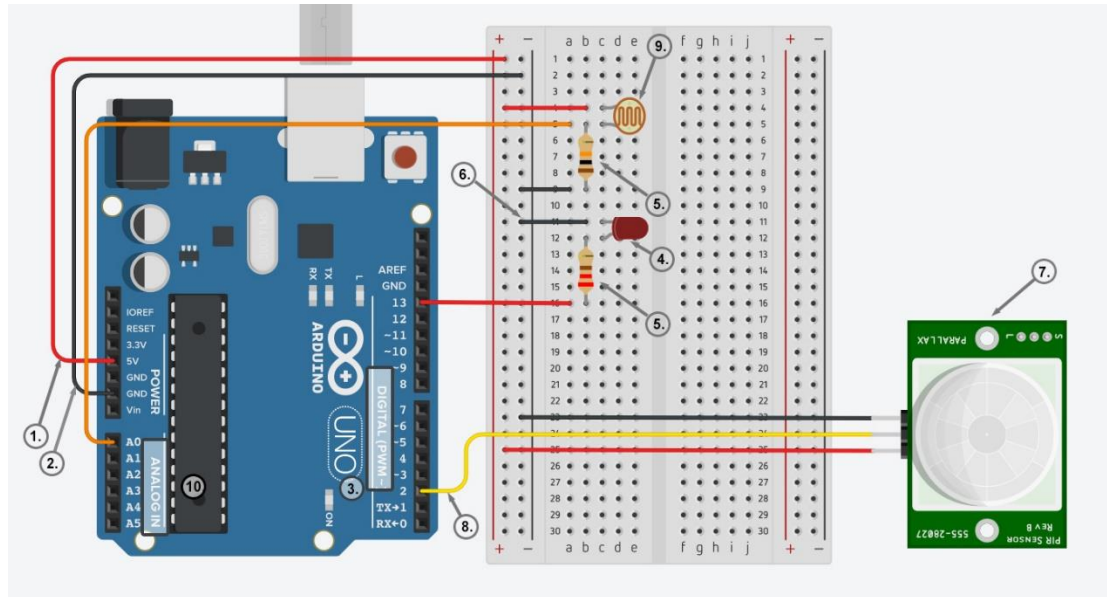

Figure 2: Diagram of the circuit
The following diagram (Figure 2) presents the way that the components of the circuit, meaning a LED, a PIR Sensor, and a photoresistor (optional), should be connected. In the beginning, the breadboard should be supplied with power (5V) (1) and ground (GND) (2), through jumpers that are respectively connect to + and – columns of the breadboard. Use one of the digital pins (3) (pin 13 in the example) to connect the anode of your LED (4) through the 220 Ω resistor (5). Connect the cathode of your LED to ground (6) in order to create a closed circuit. Use, again, one of the digital pins (3) (pin 2 in the example) to connect the signal pin (8) of your PIR sensor (7). Use the remaining two pins to provide 5V power and ground to your sensor. Connect one of photoresistor's (9) legs to power (5V), and the other to one of the analog pins (10) (pin A0 in the example), as well as to ground through the 10K Ω resistor (5).